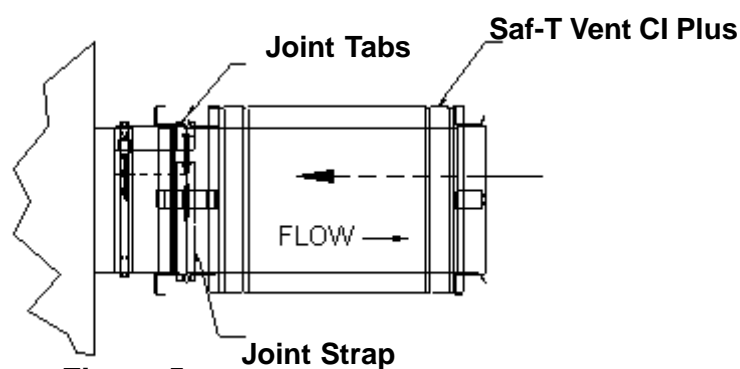

Figure 5
4. Insert the male end of the first piece of Saf-T Vent CI Plus into the female end of the boiler adapter, lining up the joint tabs, *figure 5*. Install the joint strap over the tabs of both parts, hand tighten the strap with a 7/16" hollow nut driver. **CAUTION:** overtightening will distort the joint. Re-tighten the boiler clamp around flue collar. If possible, reach into the vent and apply RTV sealant to all inside seams of the boiler adapter and the first joint. Smooth the sealant with a moistened finger or flat tool, *figure 5*.